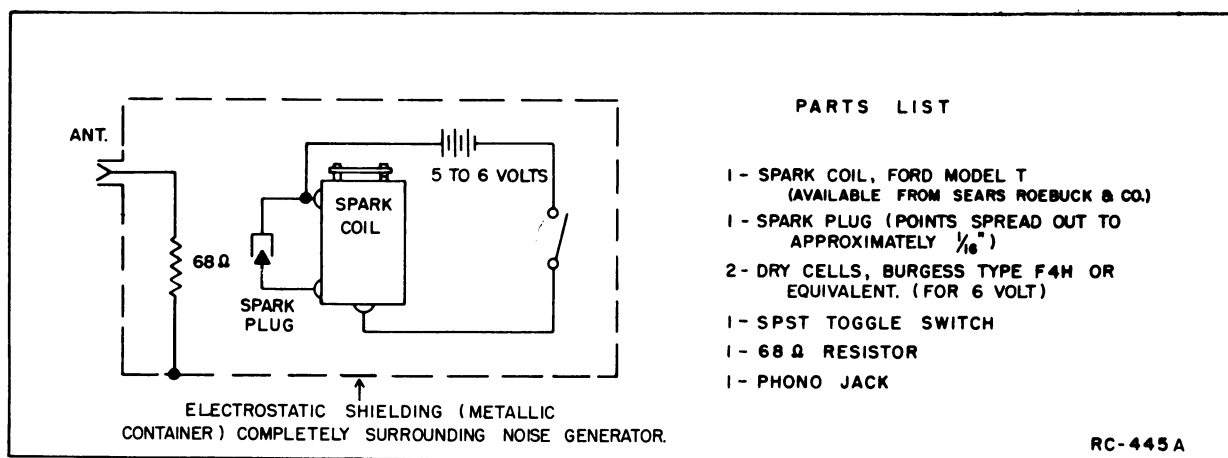

Figure 6 - Noise Generator
1. A noise generator as shown in Figure 6.